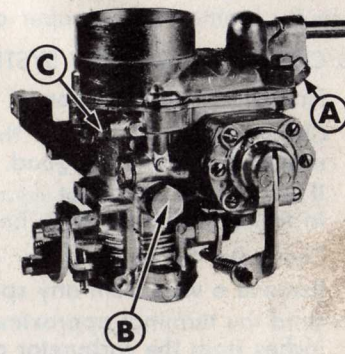

fig. 47
The DV model is equipped with a single barrel carburetor. To clean the fuel filter screen, loosen the screw A (fig. 47) and dip the screen in gasoline. Blow dry with compressed air.
- You can also remove for inspection or cleaning the main jet B (fig. 47) and the idling jet C (fig. 47.)